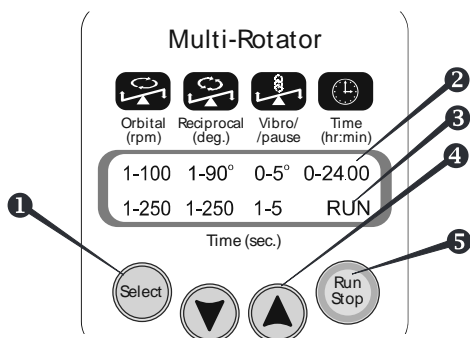

Fig. 1 Control panel
- 4.4. Press the Run/Stop key (Fig. 1/y) to start the program.
- 4.5. The platform motion will begin and the corresponding indication (RUN (Fig. 1/w) and the changing time values) will be shown on the display.
- 4.6. If the operation time is not set and the timer indicator (Fig. 1/v) shows 0:00, pressing the Run\Stop key will cause continuous operation of the rotator until the Run\Stop key is pressed again.
- 5.1. Press the Select (Fig. 1/u) key to choose the parameter to change (the active parameter is flashing).
- 5.2. Use the p and q keys (Fig. 1/x) to set the necessary value (note: if the key is pressed for more than 2 sec the numerical changes quickly).